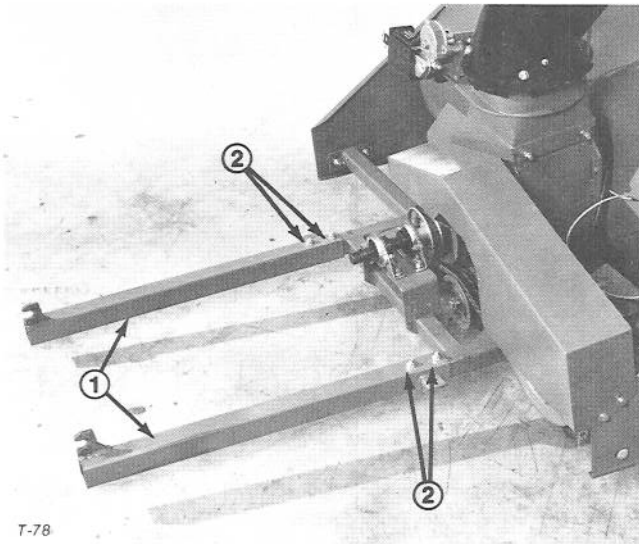

Figure 5
5. Install belt shield over belts, pulleys and idler and secure with flange head capscrews (Fig. 5).
1. Slide left and right hand tool bars onto center snowthrower frame, align mounting holes and secure with capscrews and flange nuts (Fig. 5).